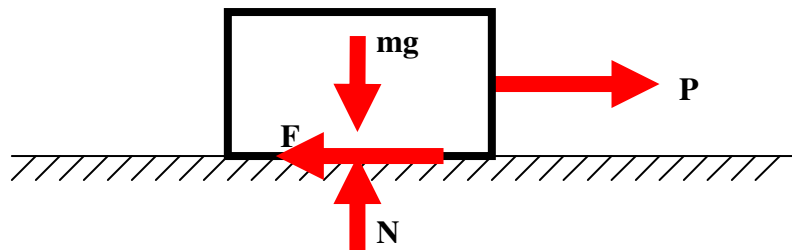

Figure 1
Figure 1 shows a block of mass m being pulled horizontally by a force P . The _____ surface exerts a normal force N to support the weight of the block and a friction force F to resist the motion in the direction of P .
1. _____ (also known as Coulomb friction). It occurs when unlubricated (nonsmooth or rough) surfaces of _____ are in contact under a condition of _____. An example of this type of friction is shown in figure 1. This type of friction will be explained in details in the next section.
Let us consider the block in figure 1 (redrawn in figure 2a). The block is vertical equilibrium as the force N is equal to its weight mg . However, the block may or may not slide horizontally depending on the magnitudes of the force P and the friction F .